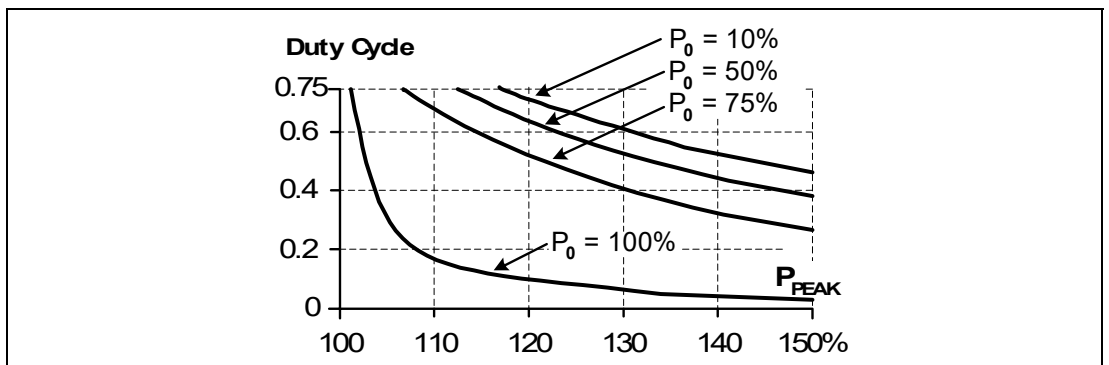

Figure 25.2 Max. duty cycle curve
- The average (R.M.S.) output current must be below the specified continuous output current. If the R.M.S. current is higher, the unit will respond with a thermal shut-down after a period of time. Use the maximum duty cycle curve (Figure 25.2) to check if the average output current is below the nominal current.